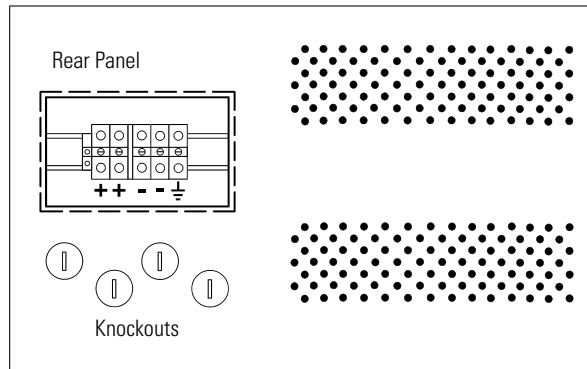

Figure 13. RBC-3 Rear Panel and Knockouts
2. Remove the screws in the RBC-3 rear panel and remove the panel (see Figure 13).